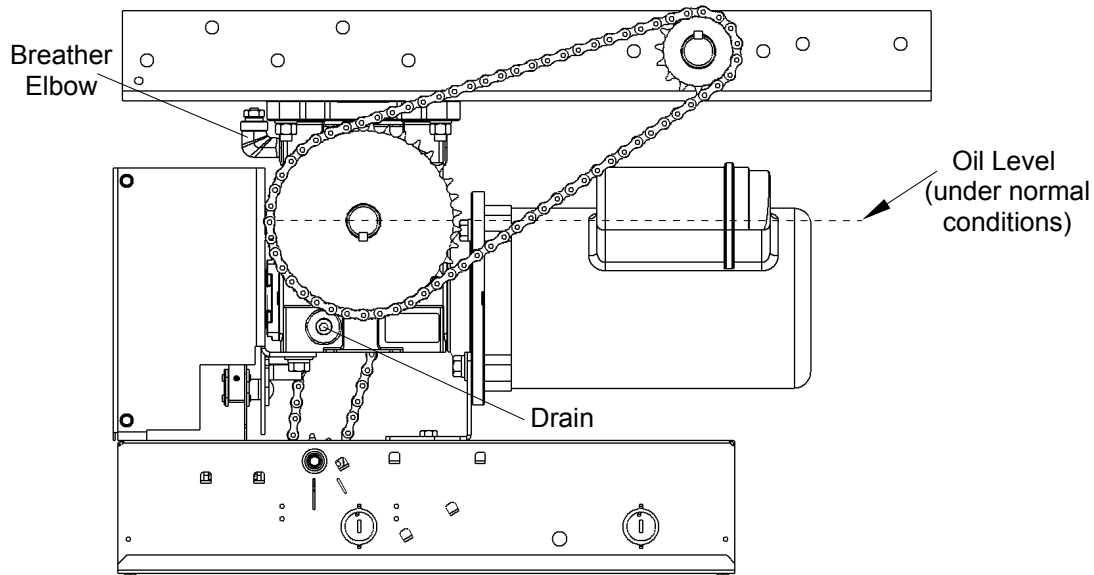

Figure 29 - Gear Reducer Breather
1. Unfasten and remove the breather elbow, refer to Figure 29.